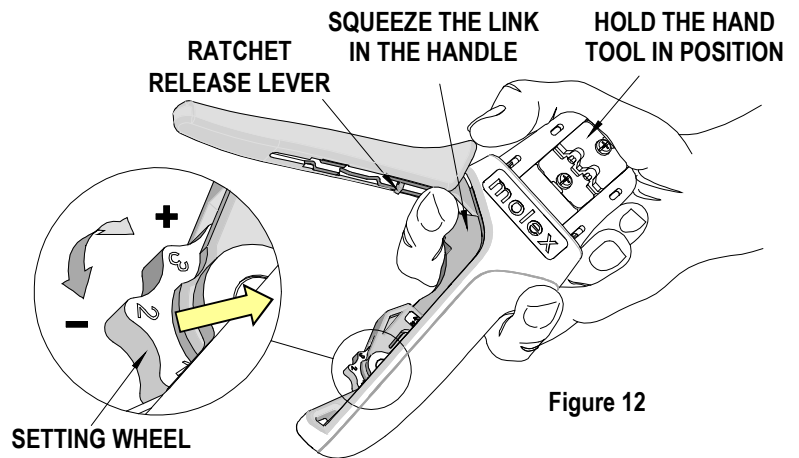

Figure 12
(See Figure 12)
1. Hold the hand tool in the palm of your hand as shown in Figure 12. Using your index finger, squeeze the link toward the top of the hand tool frame. This will release the preload adjustment wheel.
2. Rotate the setting wheel counterclockwise (CCW) to increase handle force. The numbers will display higher. To decrease handle force, rotate the setting wheel clockwise (CW).